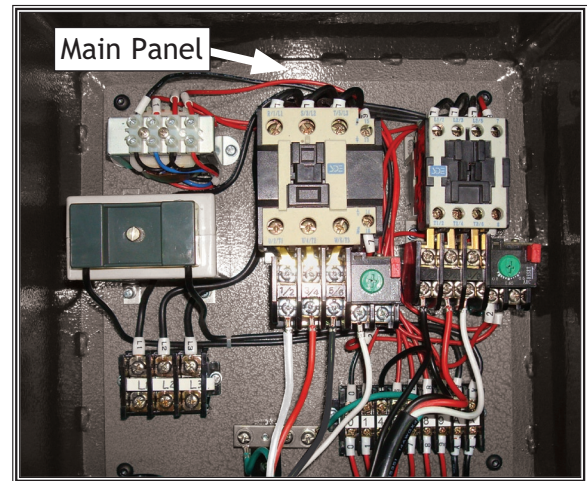

Figure 4. W1773 control box main panel, 3-phase 440V.
5. Remove and replace the existing control box 220V main panel with the 440V main panel from the 440V conversion kit (**Figure 4**).